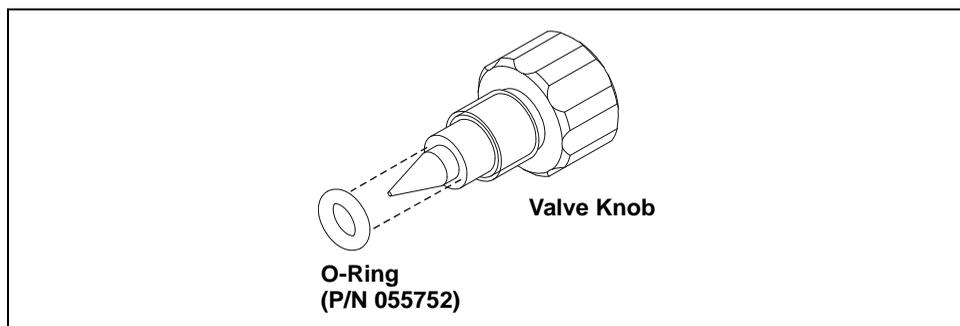

Figure 5-11. Waste Valve or Priming Valve O-Ring Replacement
- If the O-ring is removed with the valve knob in Step 3, pull the O-ring off the end of the knob (see Figure 5-11). If the O-ring is not removed with the valve knob, insert a thin object (for example, the bent end of a paper clip) into the cavity in the pump head and carefully pull out the O-ring. **Do not scratch the cavity.**